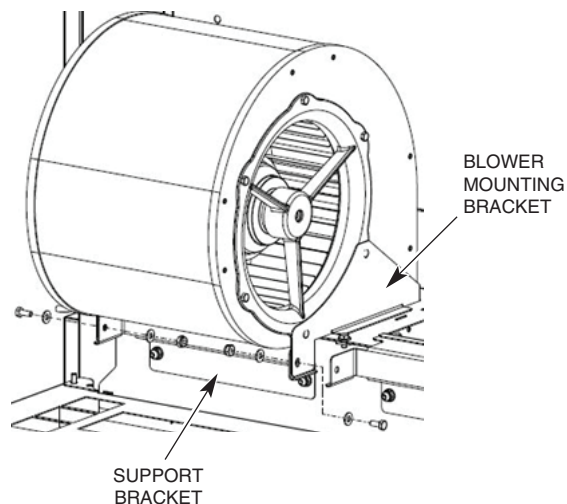

Fig. 27
3. Lower the back side of the blower assembly down so that the holes in the blower mounting brackets line up with the holes in the support brackets on the heater housing (Fig. 27).
4. Install ¼-20 hex head cap screws with washers and stop nuts as shown in Fig. 27 and tighten